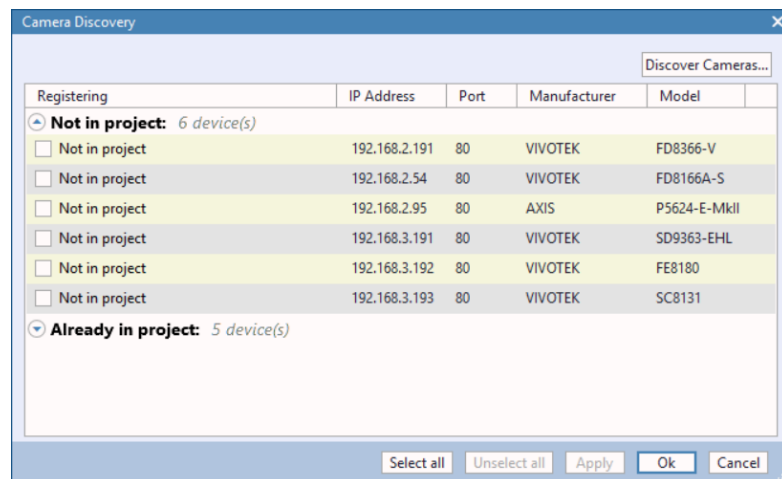

Figure 242: Camera Discovery
1. Select the folder **Network/Devices** or a subfolder and choose **New->Discover Cameras** from the context menu. This opens the camera discovery dialog as shown in Figure 242.